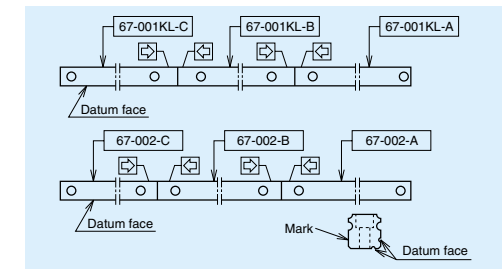

Fig. II-9-25
- The rail with butting specification are marked with alphabet (A, B, C ...) and an arrow on the opposite side of the mounting datum face. Use the alphabets and arrows for assembly order and direction of the rail (Fig. II-9-25).